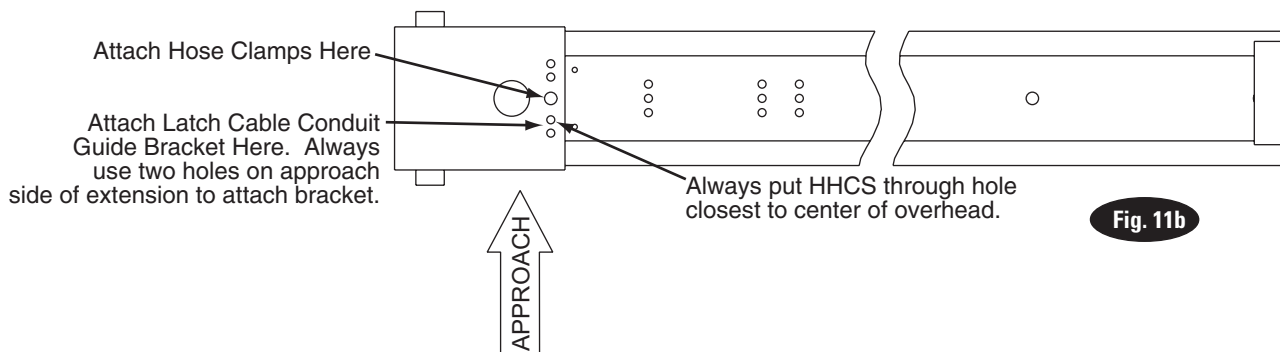

Fig. 11b
- D) Attach latch cable conduit guide brackets to overhead as shown, Fig. 11b & Fig. 11d. Always use the holes on the approach side of the lift. HHCS should be in hole nearest the center of the overhead, Fig. 11b.